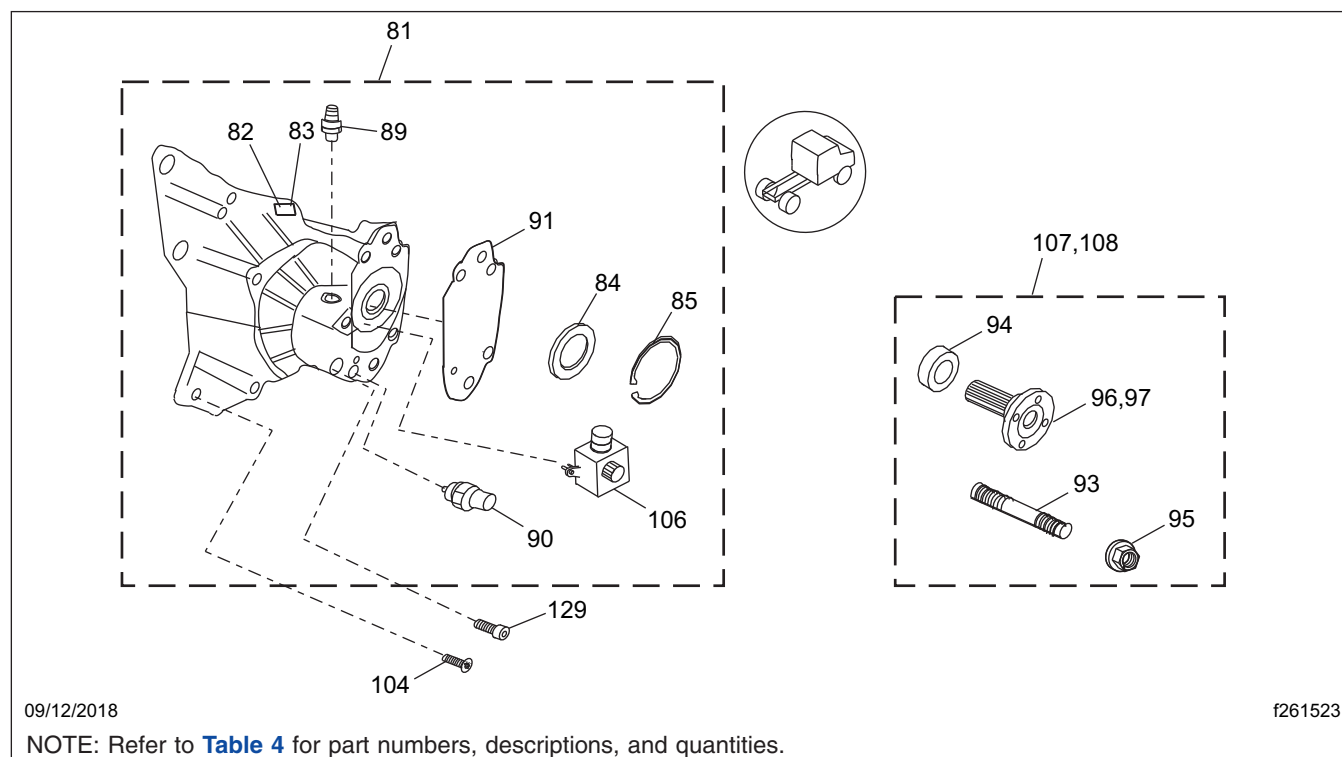

Fig. 1, Service Parts—PTO (342-C93063 or similar)
Use the information in **Fig. 1** and **Table 4** to identify additional parts and service information, beyond what is required for the PTO installation. Since the PTO was not factory installed, this information will not be available in PartsPro by searching the VIN.
* See Fig. 1.